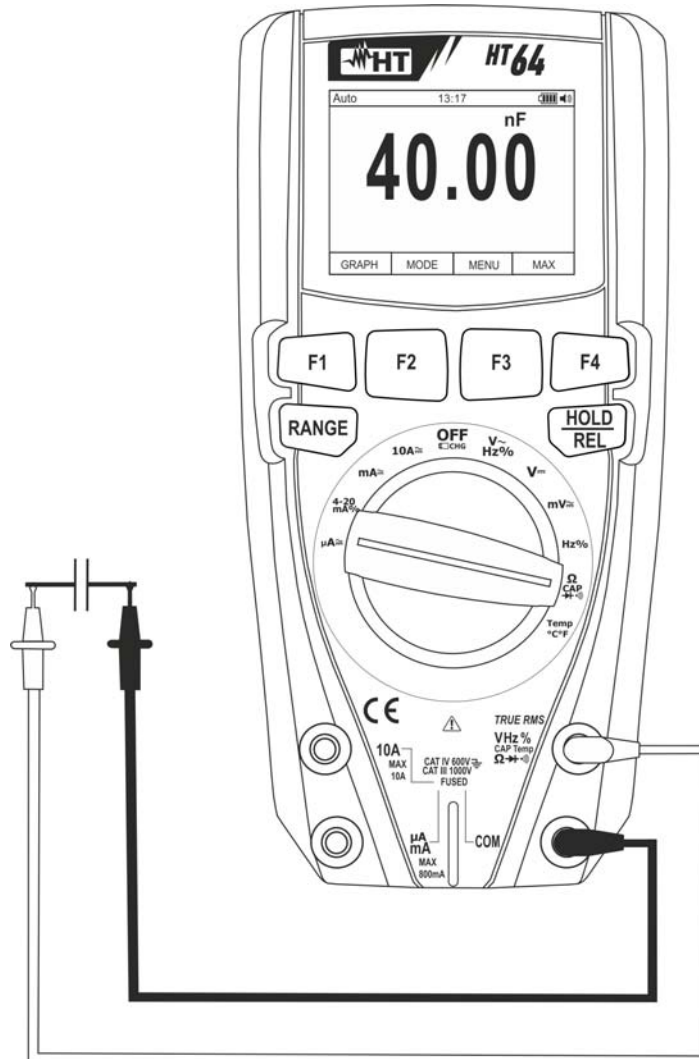

Fig. 27: Use of the instrument for Capacitance measurement
5. Position the leads at the ends of the capacitor to be tested, respecting, if necessary, the positive (red cable) and negative (black cable) polarity (see Fig. 27). The display shows the value of capacitance. The bargraph is not active in this function.